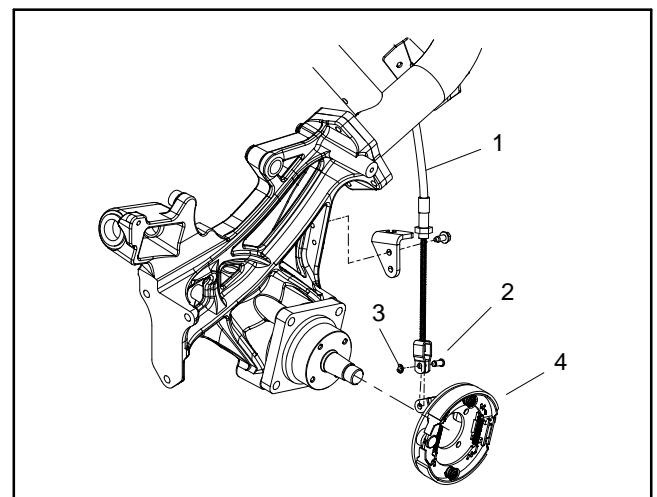

Figure 52
2. Loosen, but do not remove, lug nuts (item 9) and lock nut (item 7). Loosen lock nut at least two (2) turns.
5. Remove e-ring and clevis pin that secure brake cable clevis to brake actuator lever (Fig. 52). Position brake cable clevis away from actuator lever.
6. Make sure that lock nut on wheel motor shaft is loosened at least two (2) turns. Use hub puller (see Special Tools in this chapter) to loosen brake drum assembly from wheel motor.
7. Remove lock nut and brake drum assembly. Locate and retrieve woodruff key (item 12).
8. Remove four (4) cap screws that secure brake assembly to wheel motor. Remove brake assembly. If brake service is required, see Brake Service in the Service and Repairs section of Chapter 7 - Chassis.
14. Support wheel motor to prevent it from falling. Remove four (4) cap screws that secure wheel motor and brake lever tab (item 10) to frame. Remove brake lever tab and wheel motor from machine.
1. Position hydraulic wheel motor to the frame with motor ports facing up. Place brake lever tab (item 10) to frame with slot toward rear of machine. Secure motor and brake lever tab to the frame with four (4) cap screws.
5. Position brake assembly to wheel motor and align brake actuator lever with slot in brake lever tab. Secure brake assembly to wheel motor with four (4) cap screws.
8. Secure brake cable clevis to brake actuator lever with clevis pin and e-ring (Fig. 52).
9. Install front wheel to machine and secure with four (4) lug nuts.